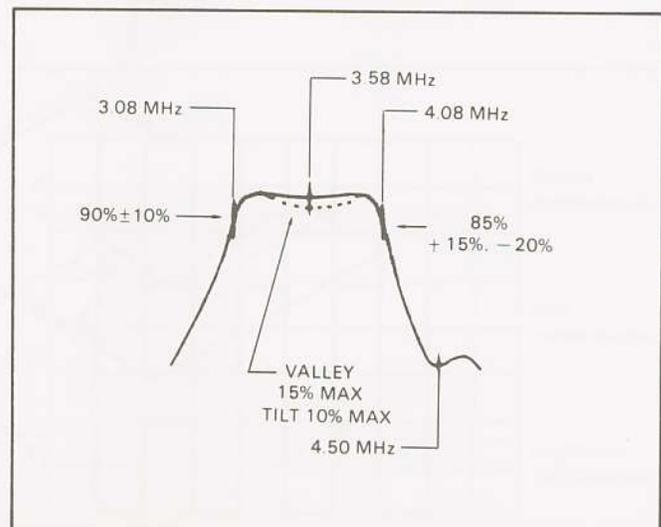

Fig. 20. Frequency Response Measurement, Demodulated Response.
5. A demodulator probe will give a "text book" frequency response display as shown in Fig. 20, and can also extend operation beyond 10 MHz.